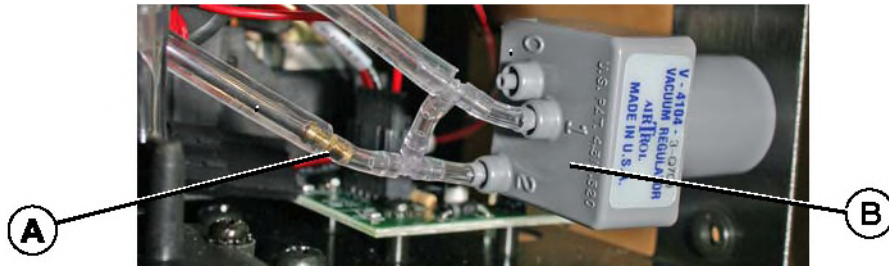

Figure 31 Restrictor (A) and Regulator (B)
The speed of the recovery is primarily dependent on a small subcomponent in the vacuum assembly known as the restrictor (see Figure 31 for location). The restrictor is a brass fitting that joins two small-diameter tubes within the vacuum assembly. The restrictor has an internal diameter of 0.007” (0.01778 mm) and can become clogged over time. As this tiny aperture diminishes, the speed of the vacuum recovery is decreased.
Figure 35 Pressure pump (B) on FB950. (A) is the connector for the long pressure tube in the track. This view is from inside the printer with the pump plate fully installed. Newer H-series without the valve (A in Figure 31) will match this appearance also.